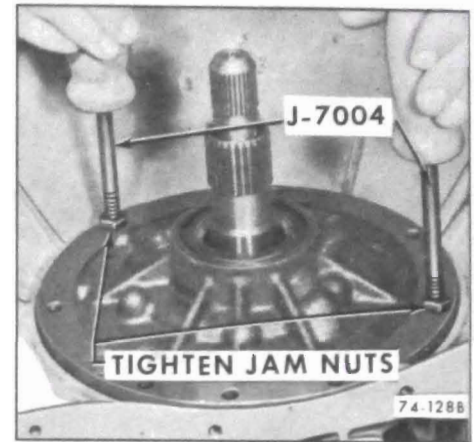

Figure 74-II7
8. Remove valve body plate and gasket. See Figure 74-II3.